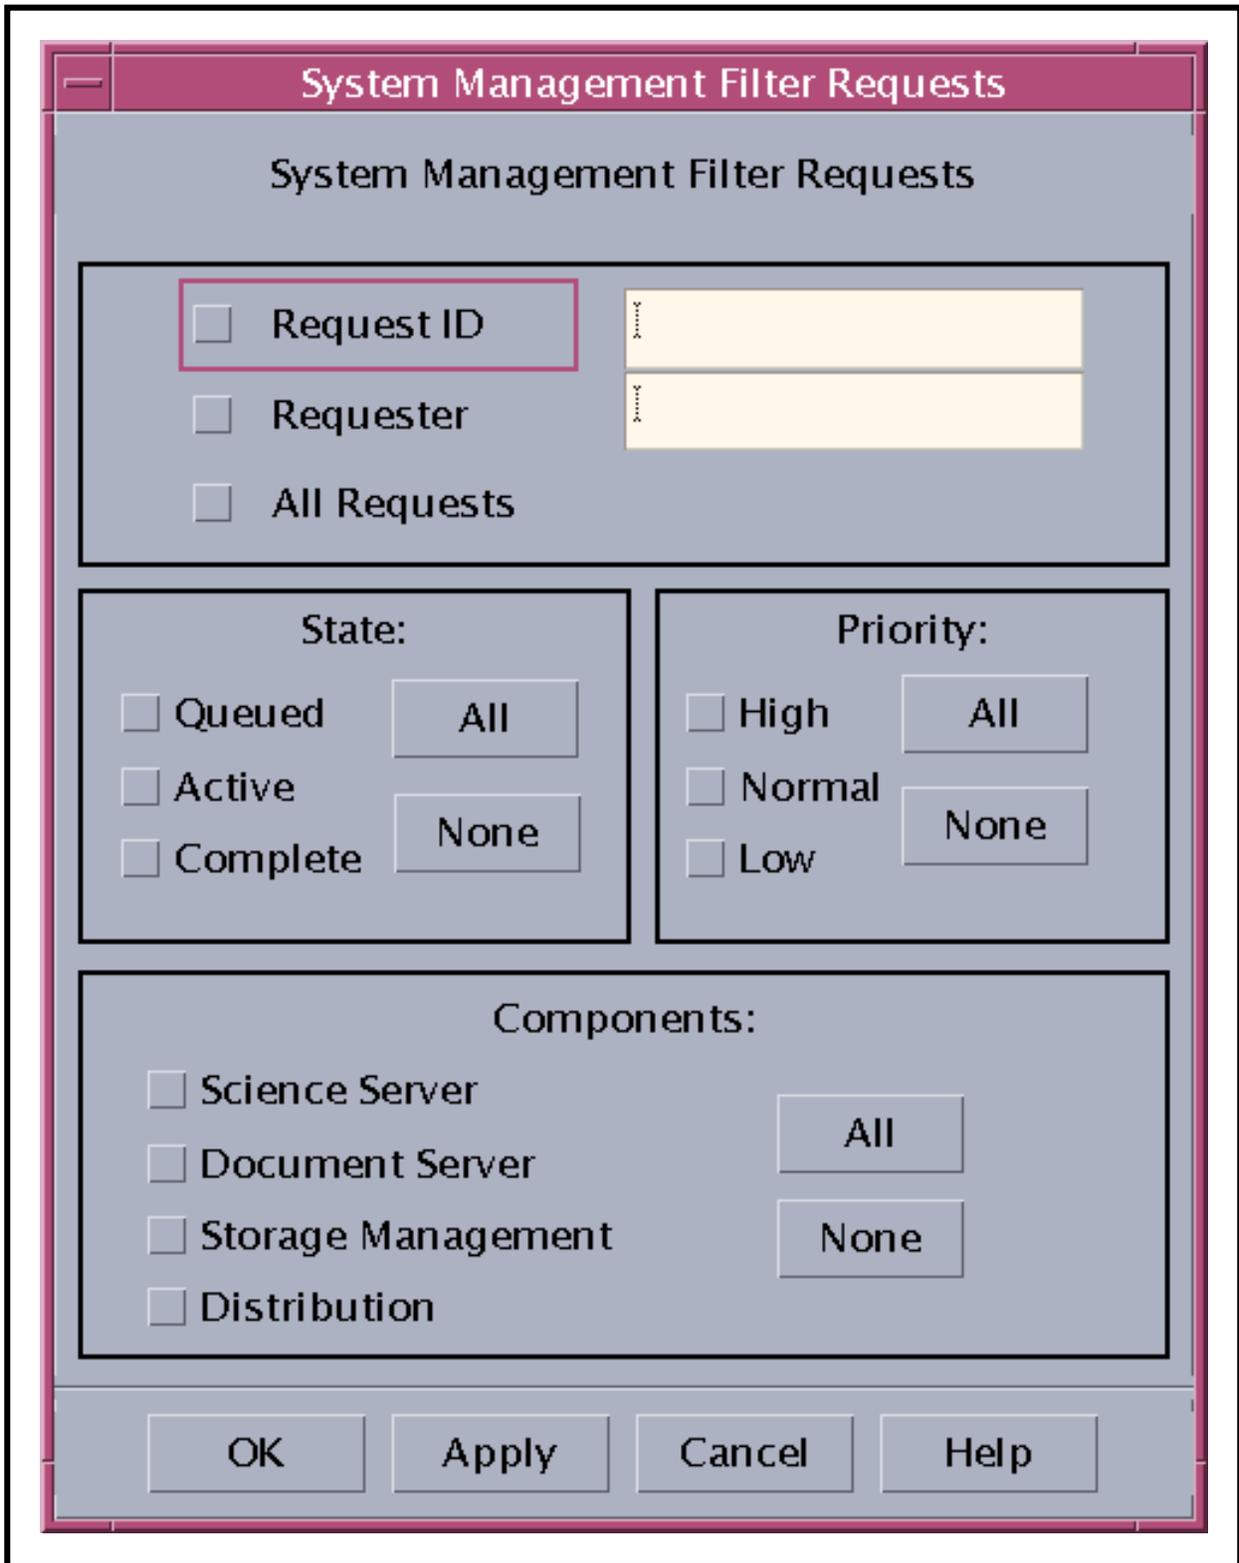

Figure 10. System Management Filter Requests Dialog Box
- The **System Management Filter Requests** dialog box (Figure 10) is displayed.